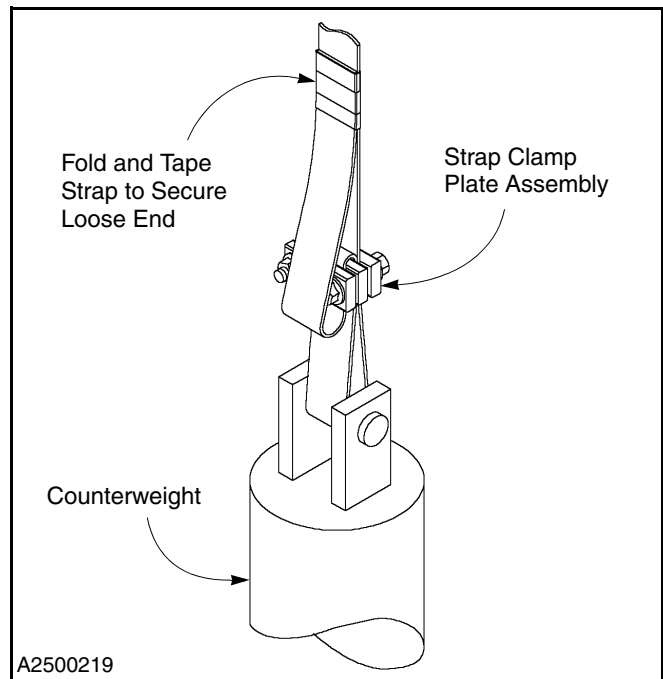

Figure 81
11. After all adjustments are complete, trim off any excess strap to within 6 in. of the strap clamp plate assembly. Then fold and tape the loose end of the strap to the main length of strap. (See Figure 81.)